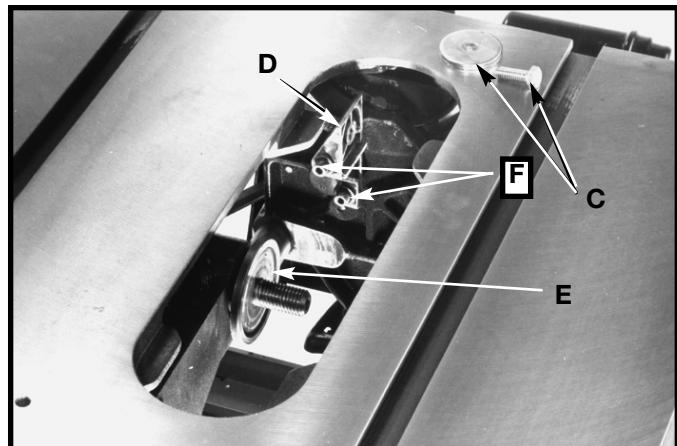

Fig. 18
- If alignment is necessary, loosen the two screws (F) Fig. 18, align bracket (D) with the inner arbor flange (E), and tighten screws (F).
- Loosely assemble large washer and screw (C) Fig. 18, to the inside splitter bracket. This screw and washer was removed in **STEP 3**.